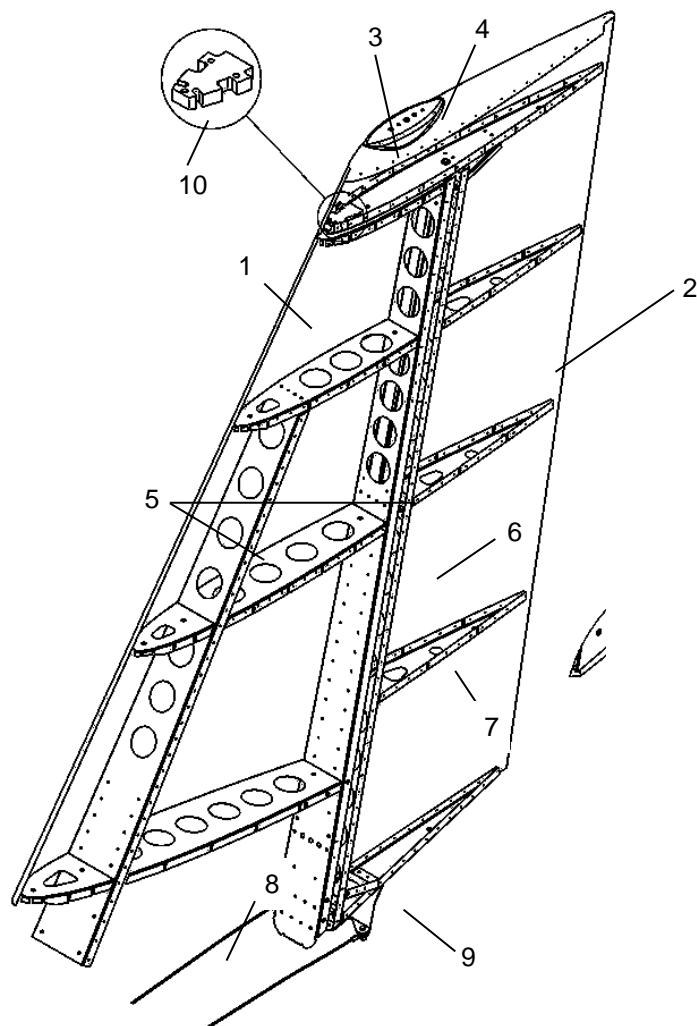

Figure 34: Vertical tail and rudder.
Refer to Figure 34. The vertical (1) stabiliser and rudder (2) consist of all-metal light alloy structures. The rudder horn (3) extends to the vertical stabilizer leading edge and has a composite tip on which navigation lights (4) and an aerial may be fitted. The vertical stabiliser consists of twin spars (5) with wrap-around stressed skin panelling. An attachment plate secures the vertical stabiliser's front spar to a bracket attached to the penultimate tail cone rib. The rudder consists of a spar (6) with formed sheet metal ribs (7) and sheet-metal skin. The rudder rotates / deflects around three hinges. Rudder control is affected by steel cables (8) attached to a control horn (9) on the bottom edge of the rudder and running (with a cross-over) to two control horns attached to the rudder pedal axles. Rudder mass balancing (10) is placed under the leading edge of the rudder horn, on the top rudder rib.